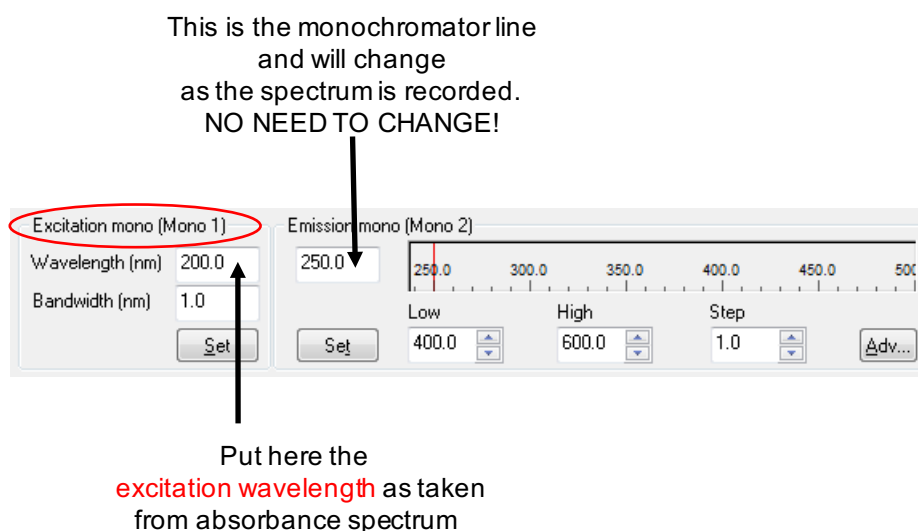

Figure 2. The Excitation mono (“Mono 1”) panel.
- Select the “Emission Scanning” using the radio button, a Monochromator panel will show up (Figure 2).